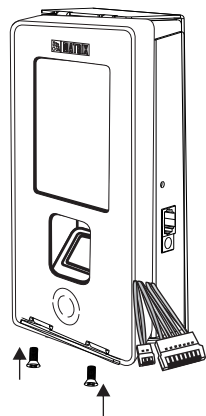

Figure9
3. Fix the 2 screws from bottom to fix complete unit and BBUE back plate. See Figure9.